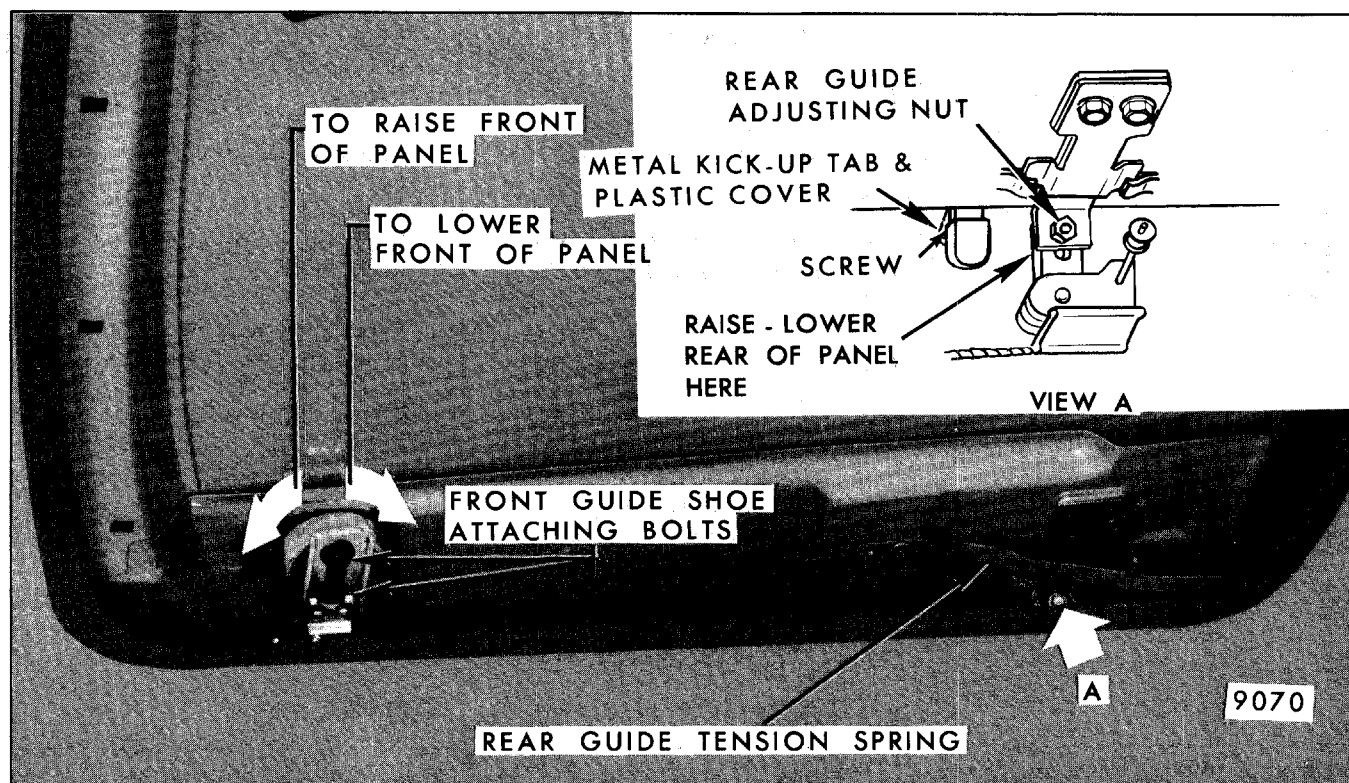

Fig. 8-63-Sun Roof Panel Vertical Adjustment Provisions
1. To obtain a flush fit with the roof, loosen two bolts on the front guide shoes (Fig. 8-63).
2. Turn front guide adjusting nut clockwise to lower roof panel and counterclockwise to lift panel (Fig. 8-63).
1. To obtain a flush fit with the roof, loosen attaching nut on lifter link (View "A", Fig. 8-63).
2. Raise or lower panel to desired height using serrations provided on lifter link (View "A", Fig. 8-63).
3. If panel fails to rise, check for low battery or check for bent lifter tabs or missing tab covers (Fig. 8-63).
6. Install rear guide attaching plate retainer over rear attaching plate and install attaching bolts (14 to 22 in-lb torque). Rotate rear slide tension spring outboard and place on underside of roller (Fig. 8-63).